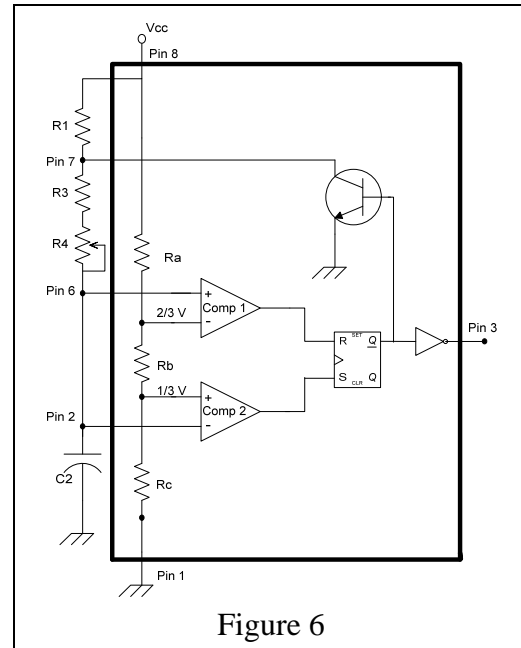

Figure 6
**All together as a 555 timer, astable multi-vibrator (oscillator).** Now let's put all these parts together to form the 555 timer circuit that is encapsulated in the IC package (figure 6). The components that make up the 555 timer are inside the heavy black box outline that represents the casing of the IC device. Notice that there is a voltage divider circuit that divides the voltage applied ( $V_{cc}$ ) into thirds. These fractional parts of  $V_{cc}$  are in turn connected to the inverting input of one comparator and the non-inverting input of another comparator. The other two inputs to the comparators are connected to another external voltage divider and capacitor that will be described later. There is an RS Flip-Flop that has its inputs coming from the comparators and only the not-Q ( $\bar{Q}$ ) output is connected through an inverter to the outside world. And finally, there is a transistor that is controlled by the output of the RS Flip-Flop that is connected to the base of the transistor.